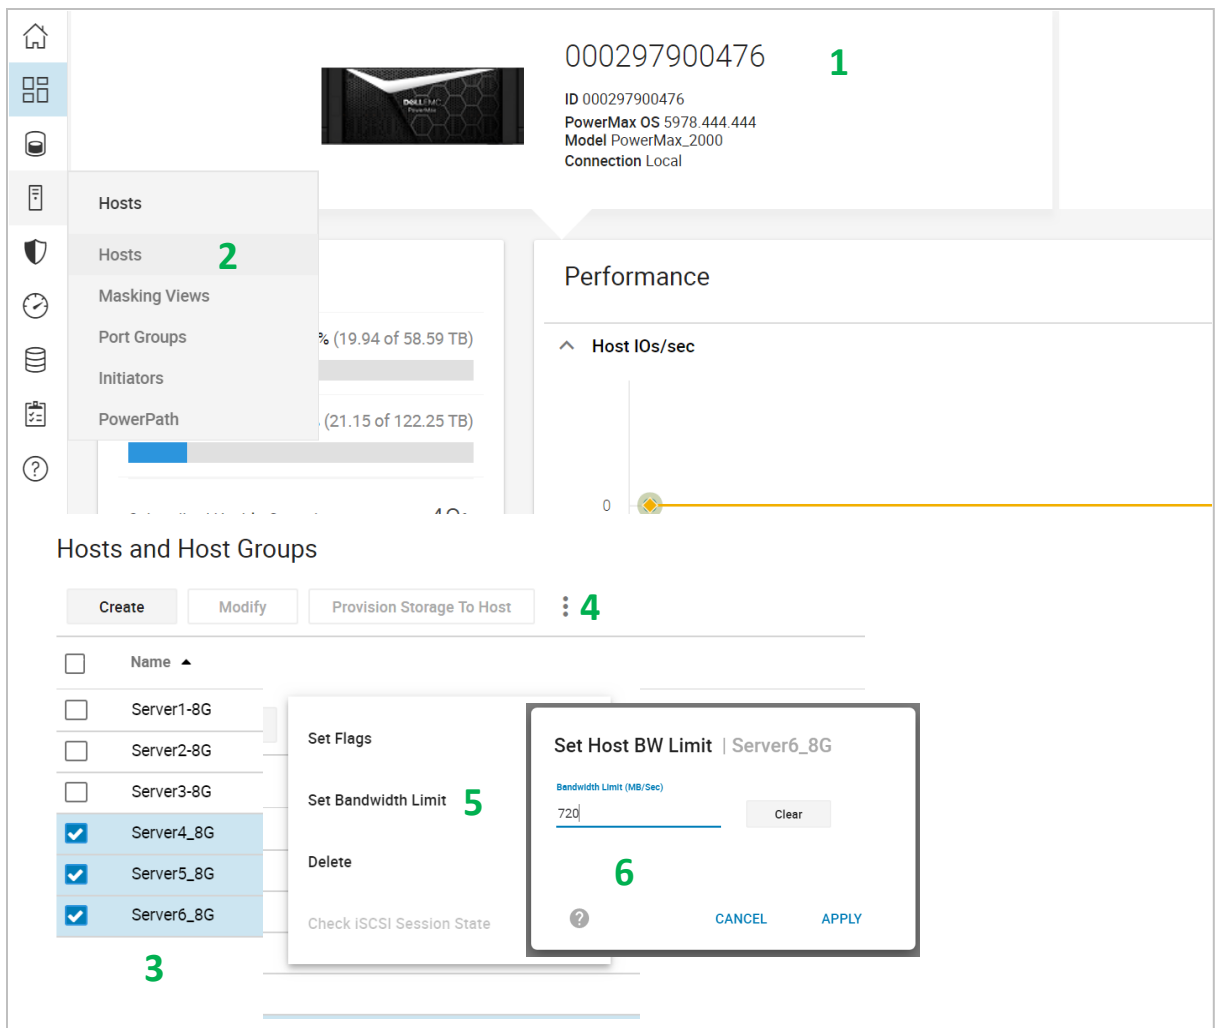

Figure 15 Configuration of bandwidth limits on 32GFC PowerMax
4. Click the vertical three dots icon, as shown in Figure 15.
Figure 15 shows the steps required to set bandwidth limits on 32GFC PowerMax.